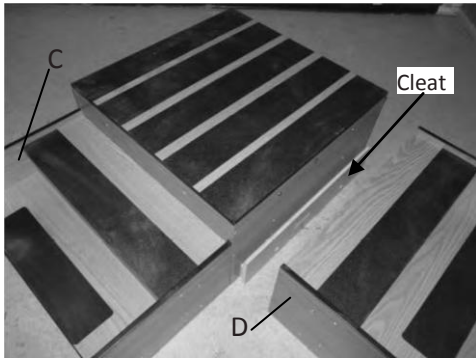

Figure 3: Base with Step sections
4. Lift the Step sections up and over the “cleat” to set them into place as shown in Figure 3.